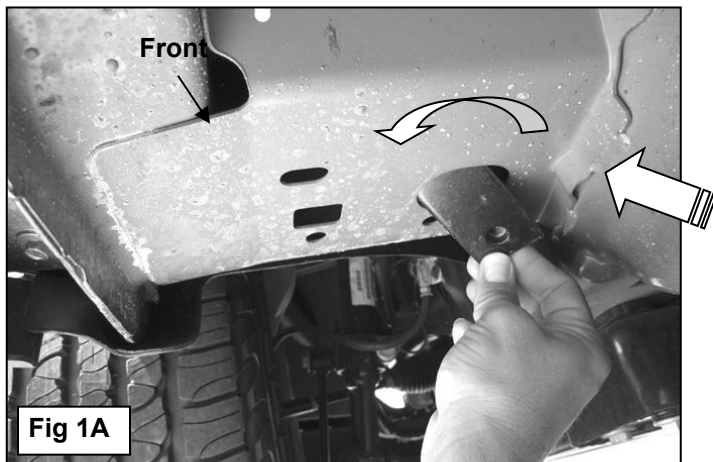

Fig 1A
- Start installation toward the driver side front-side of the vehicle. Locate the driver side-front mounting location, **(Figure 1A)**. Select (1) Welded Double Nut Plate, **(Figure 1B)**. Insert the Nut Plate into the large round hole in the floor panel. Line up the (2) threaded nuts in the Nut Plate with the large round hole and the oval hole in the floor panel. Select the driver side Front Bracket. Hang the Bracket from the Double Nut Plate with (2) M10 x 30mm Hex Bolts, (2) M10 Lock Washers and (2) M10 Flat Washers inserted through the Bracket and into the Double Nut Plate, **(Figure 2A)**. Do not tighten hardware at this time.